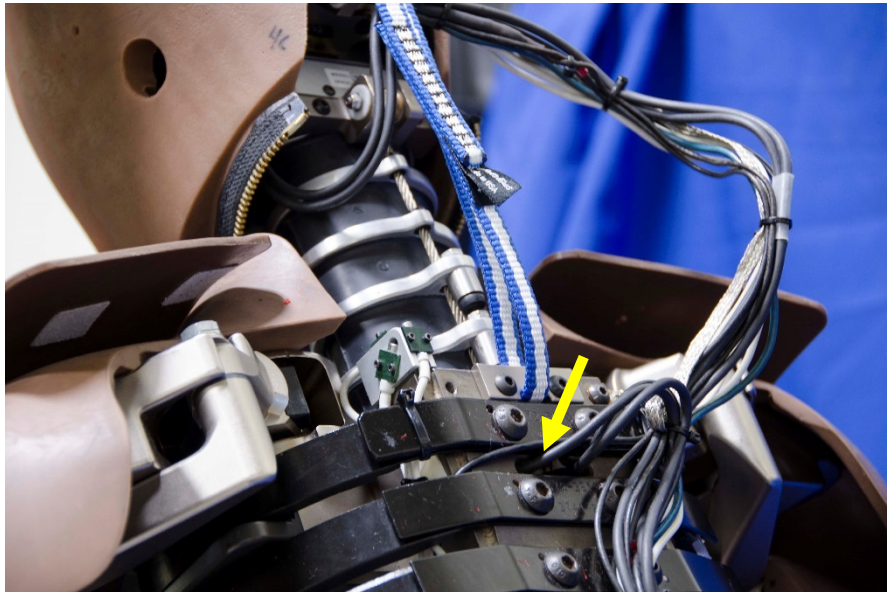

Figure 15-19. Route the lower neck load cell wiring between rib #1 and #2
15.4.1.8 Route the lower neck load cell cable through the thorax interior behind rib #1; exit out to the exterior through the recess in the spine between rib #1 and #2 (Figure 15-19). If the cable is hard wired with a connector on the end, it may not fit between the two ribs. If this is the case, it is necessary to first remove the shoulder then uninstall rib #1 to route the cable between the ribs. After passing the cable between ribs #1 and #2, include the wiring in the bundle with the wiring from the head (see next Section). Reinstall rib #1 and the shoulder after completing the cable routing.